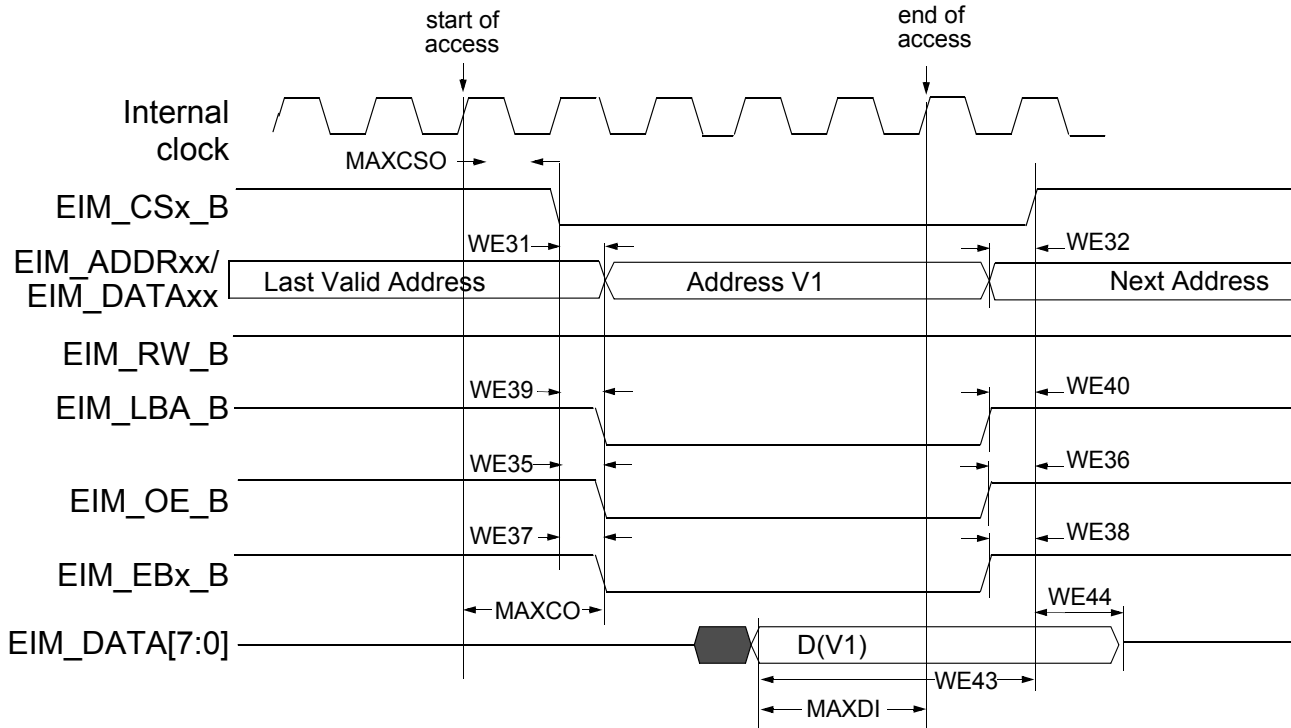

Figure 16. Asynchronous Memory Read Access (RWSC = 5)
Figure 16 through Figure 20, and Table 37 help you determine timing parameters relative to the chip select (CS) state for asynchronous and DTACK EIM accesses with corresponding EIM bit fields and the timing parameters mentioned above.
Asynchronous read and write access length in cycles may vary from what is shown in Figure 16 through Figure 19 as RWSC, OEN & CSN is configured differently. See the i.MX 6SoloLite reference manual for the EIM programming model.